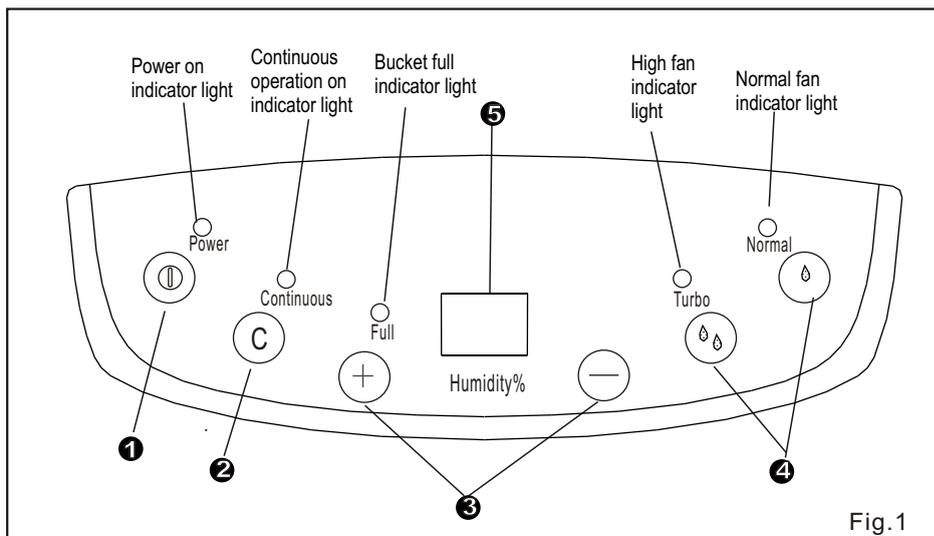

Fig.1
**NOTE:** When the continuous drain feature is not being used, remove the drain hose from the connector and attach the back drain hole with the rubber plug shown in Fig.1.